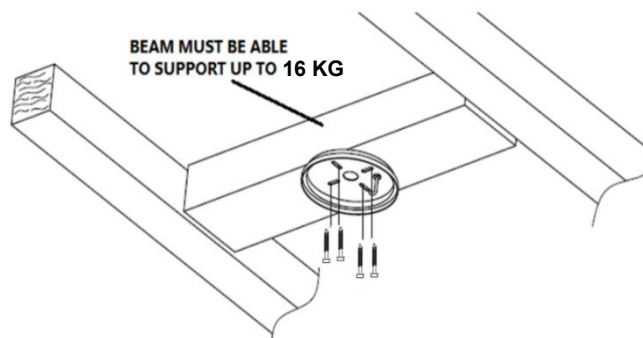

Fig. 2
- Install the hanging bracket to the ceiling joist or structure that is capable of carrying a load of at least 16kg, with 4 long screws provided. Ensure at least 30mm of the screw is threaded into the support. (Fig. 2)